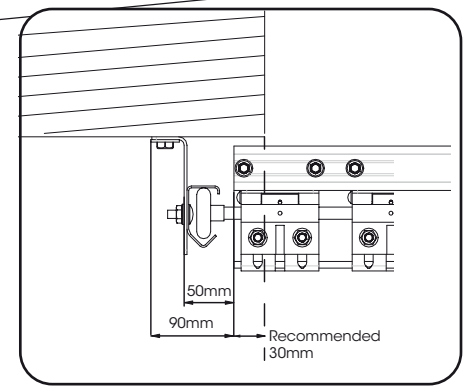
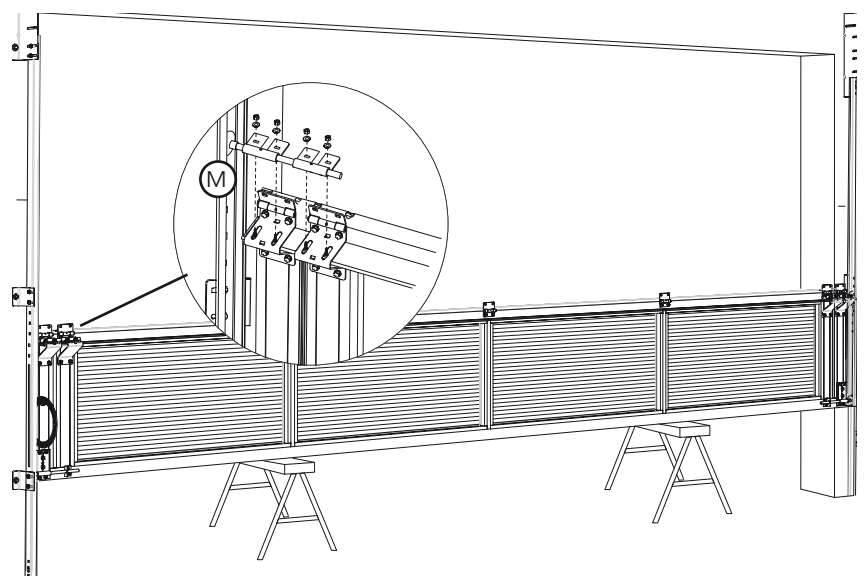

Fig: 3.1.2
Fig: 3.2.1
- Ensure to follow the measurements as shown in Fig 3.1.2 to set out the placement of the track and brackets. Measurements are from the edge of the opening to the edge of the track, including the recommended 30mm overlap on each side for the panel.
- Once satisfied temporarily fix in position with at least two (2) fixings to the top bracket and one to each of the lower track brackets. These will hold the tracks in position and allow for minor adjustments.
- Carefully move the bottom panel into position between the tracks and rest onto tressle tables as per Fig 3.2.1.
- Slide in wheel axle (M) through 2 axle plates (that were removed in step 2.2f) and fit the wheel into the vertical track, before lowering down onto end hinges. (Fig 3.2.1) Secure axle plates with the 4 screws and nuts as shown, ensuring there is sufficient clearance between the panel and the track as per Fig 3.1.2.
- c) Slide in wheel axle (M) through 2 axle plates (that were removed in step 2.2f) and fit the wheel into the vertical track, before lowering down onto end hinges. (Fig 3.2.1) Secure axle plates with 4 screws and nuts as shown, ensuring there is sufficient clearance between the panel and the track as per Fig 3.1.2.
**NOTE:** The end hinges (Q) are adjustable for the axle plate to ensure the panels are parallel to the opening.
Check that the clearance in the vertical tracks as per Fig 3.1.2 is also in the horizontal tracks.